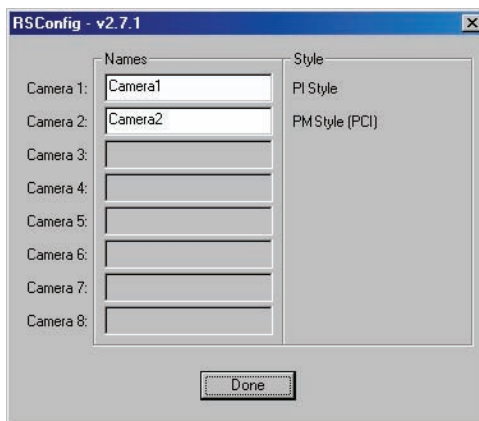

Figure 62. RSConfig dialog box: Two Camera Styles
4. When the RSConfig dialog box (Figure 62) appears, you can change the camera name to one that is more specific or you can keep the default name "Camera2". When you have finished, click on the **Done** button.